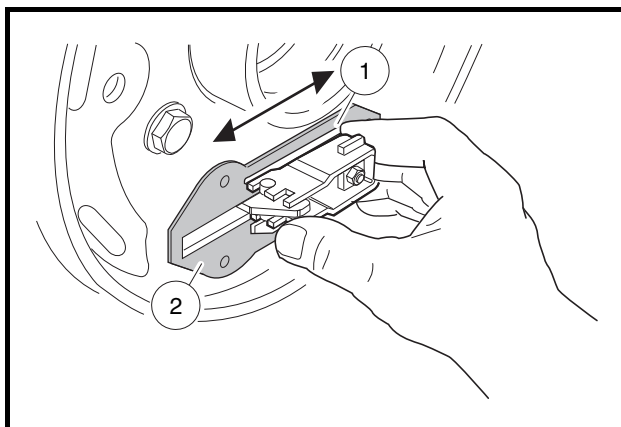

Figure 6-19 Lubricate Slide
3. Lubricate slide (1) and slide plate (2) with dry moly lubricant (CC P/N 1012151) on both sides of the backing plate. After lubricating, work slide back and forth to ensure it slides smoothly and easily (**Figure 6-19, Page 6-9**). Reinstall rubber boot onto backing plate. **See following WARNING.**